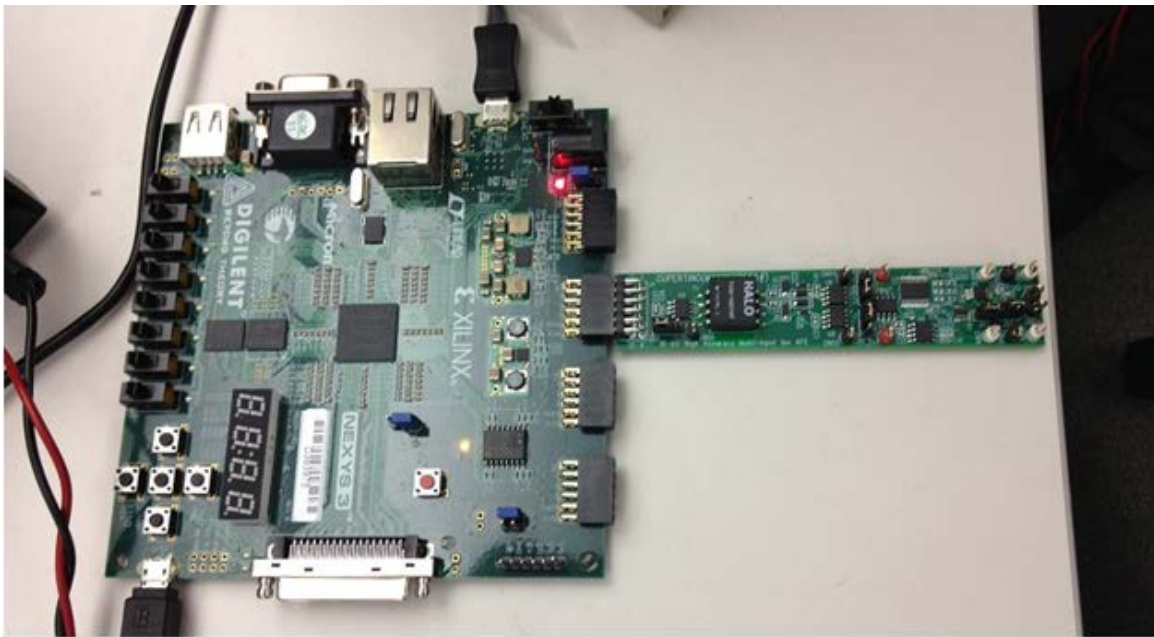
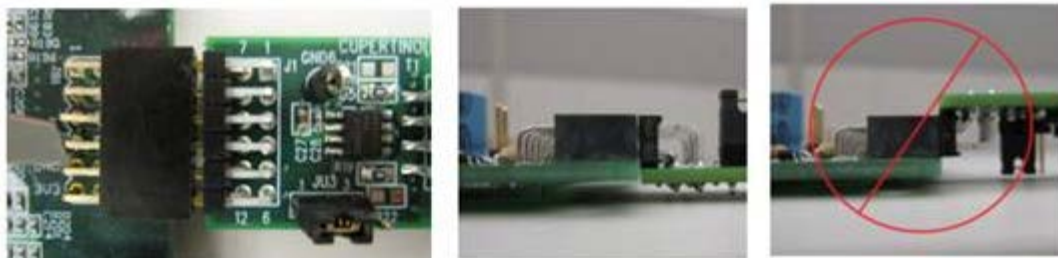

Figure 1. Santa Fe Board Connected to Nexys 3 Development Kit
Figure 2. Pmod™ Connector Alignment
- 1) Connect the Santa Fe board to the JB1 port of a Nexys 3 development kit as shown in Figure 1. Ensure the connector is aligned as shown in Figure 2.
1. Connect the Santa Fe board to the JB1 port of a Nexys 3 development kit as shown in Figure 1. Power up the Nexys 3 development kit. The Santa Fe board is completely powered from the Nexys 3 development kit and no external power is required.